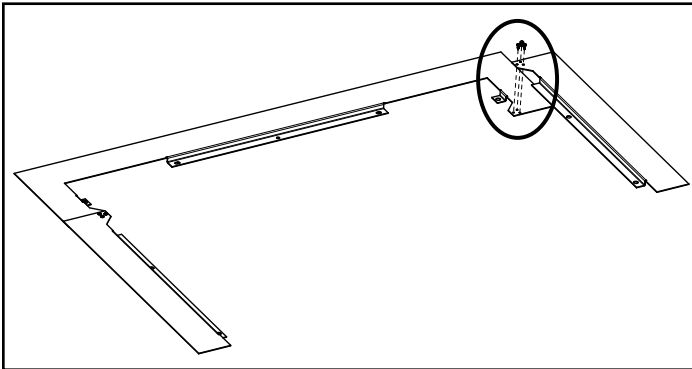

Figure 22.2
- 3. Repeat steps 1 and 2 for Surround Extension LH Side (Figure 22.2).